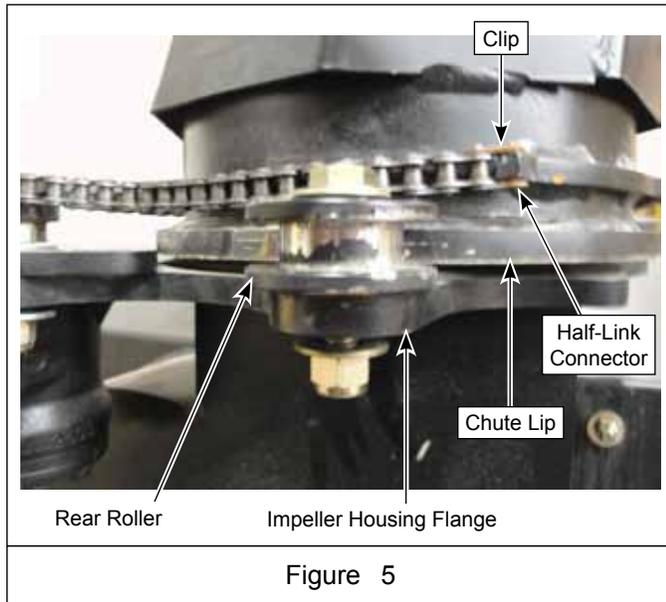

Figure 5
8. Position rear roller (removed in step 3) on impeller housing flange with chute lip in roller groove. See Figure 5.
9. Secure roller to flange with 1/2-13 x 2-1/2" hex head capscrew, flat washers and lock nut. See Figure 5.